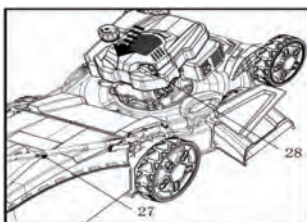

Fig. 11
2. Pull the recoil starter handle (28) lightly until you feel resistance then pull it rapidly. Do it repeatedly until the engine starts (Fig. 11).